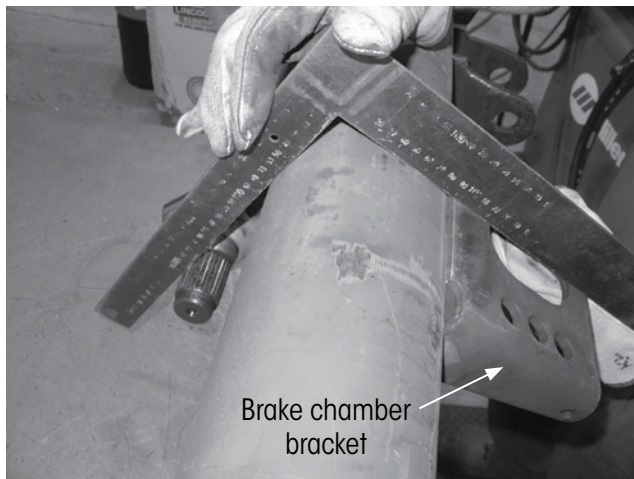

Figure 9: Tangentially positioning brake chamber bracket
4. **Place** a new brake chamber bracket on the axle tube and orient so that it contacts framing square as shown in Figure 9.